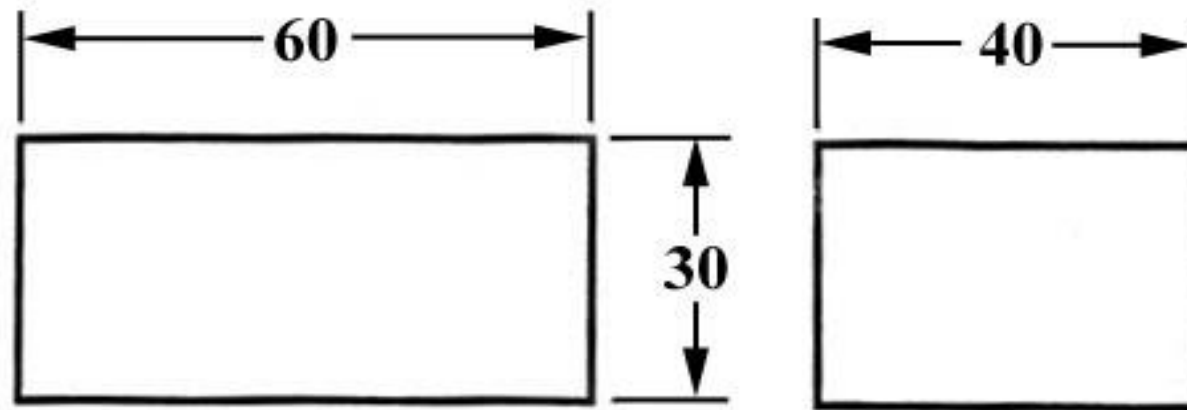

Figure 26 - Simple Object
- In order to get the feel of what dimensioning is all about, we can start with a simple rectangular block. With this simple object, only three dimensions are needed to describe it completely (figure 26). There is little choice on where to put its dimensions.